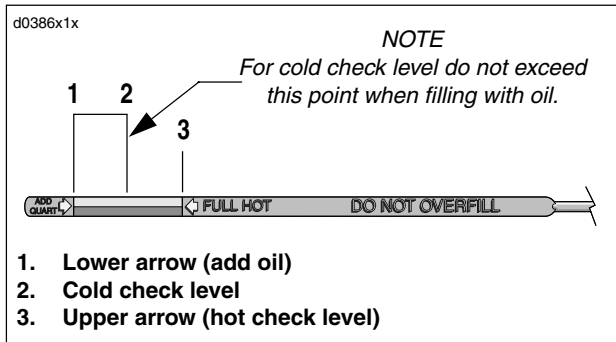

Figure 3-3. Engine Oil Dipstick
3. See Figure 3-3. Remove filler cap, and check oil level on dipstick. If oil level in pan is below lower mark on dipstick, add enough Harley-Davidson oil to bring level up between lower mark (1) and cold check level (2) on dipstick. Refer to the Dyna Models Service Manual for recommended viscosity.